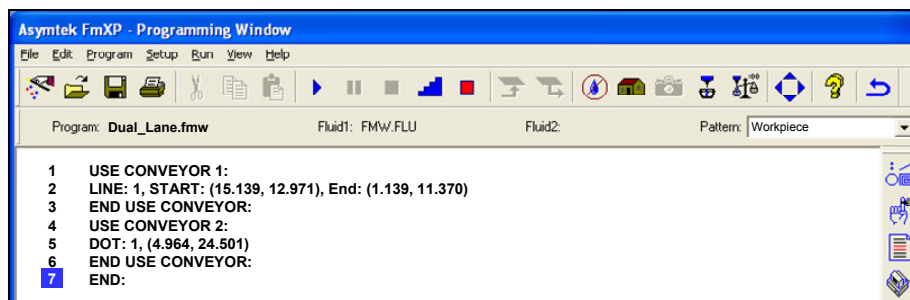

Figure 3-8 Sample Dual Conveyor Program
- ▶ A sample program is shown in Figure 3-8.